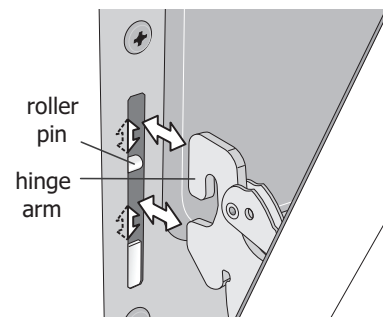
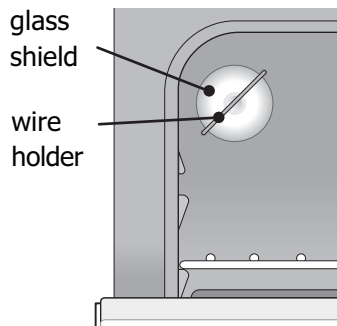

Figure 34: Replacement and location of hinge arm and roller pin
Figure 35: Oven light protected by glass shield
3. Firmly grasp both sides of oven door along the door sides. Do not use the oven door handle (See Figure 34).
4. Close the door to approximately 10 degrees from the door frame (See Figure 34).
5. Lift the oven door hinge arms over the roller pins located on each side of the oven frame (See Figure 35).
1. Firmly grasp both sides of oven door along the door sides. Do not use the oven door handle (See Figure 34).
2. Holding the oven door at the same angle as the removal position, seat the hook of the hinge arm over the roller pins located on each side of the oven door frame (See Figure 34 and Figure 35). The hook of the hinge arms must be fully seated onto the roller pins.